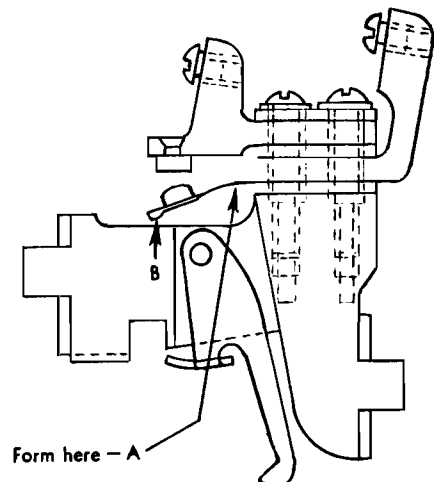

Figure 41. Circuit Breaker Adjustment
1. The lower contact strap should be formed at point A (Figure 41) to provide proper tension. At the factory these straps are adjusted so that a force of 160 plus or minus 10 grams (approximately 6 oz.) applied at the tip of the lower strap, point B, will just close the points. This tension must be maintained accurately to avoid a bouncing condition.